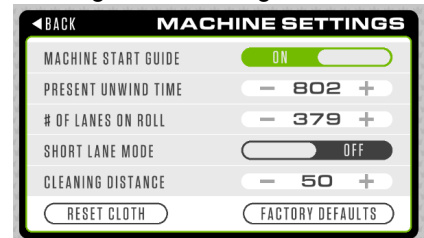

Figure 9 - Machine Settings Screen
3.2.1.5 Machine Settings Screen: (Figure 9)